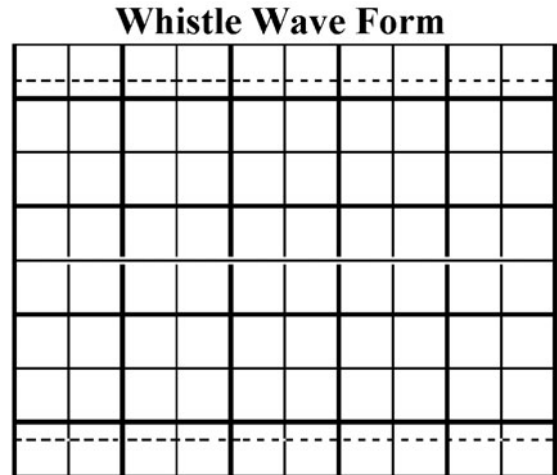

Figure L59-2
- d. Draw a representation of your whistle signature onto the scope face provided in Figure L59-2.